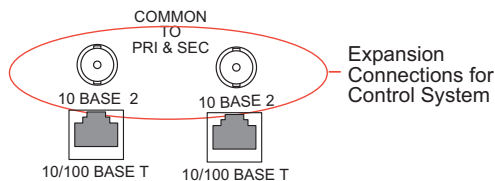

Figure 2-22. Ethernet Expansion Connections to Control System (Rear View)
- 1 Locate the expansion control connection on the rear of the routers, as shown in Figure 2-22. The connections are labeled '10 BASE 2'.